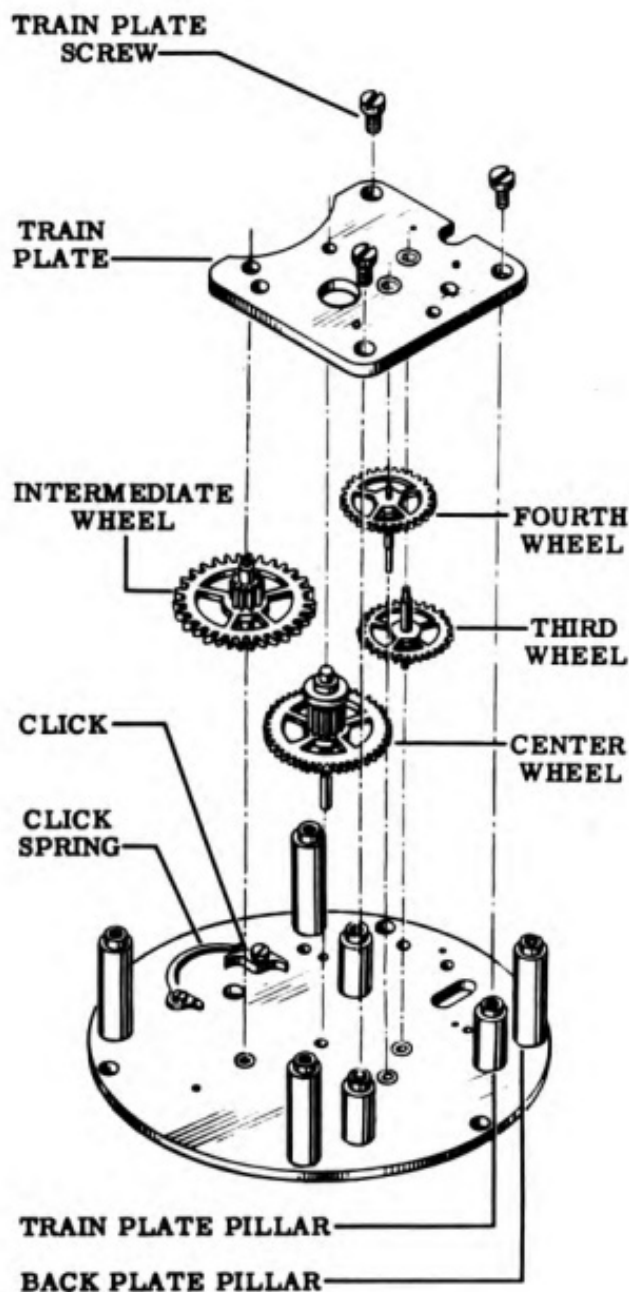
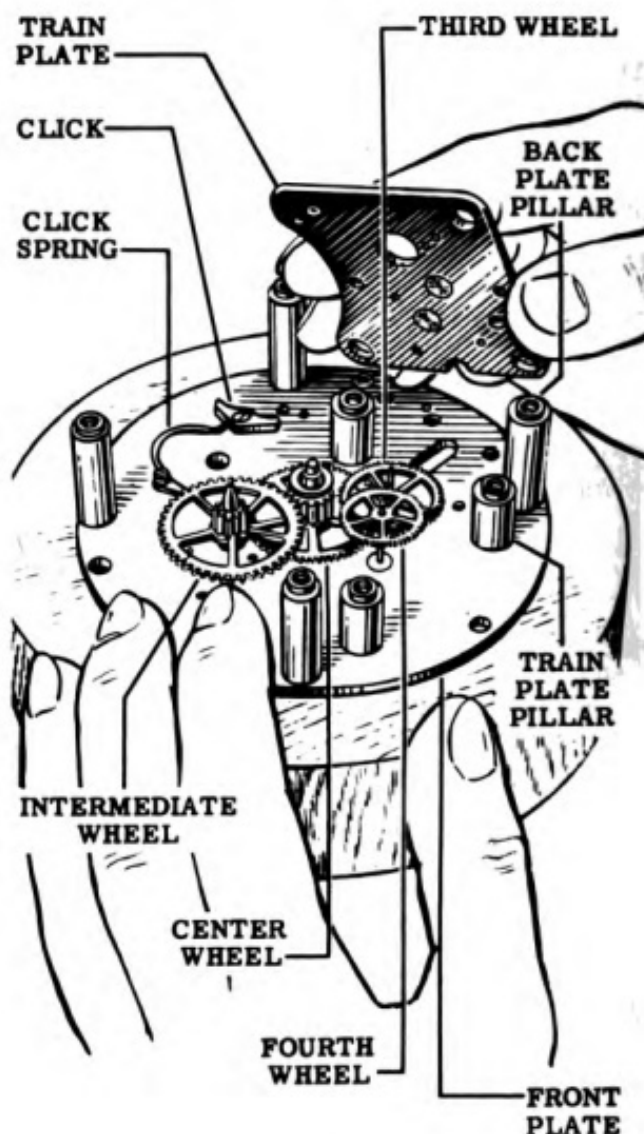

Figure 37
Figure 38
17. Unscrew the three train plate screws (see Fig. 37) and remove the train plate as shown in Fig. 38.
18. Lift out the fourth, third, intermediate and center wheels. Refer to Figs. 37 and 38.